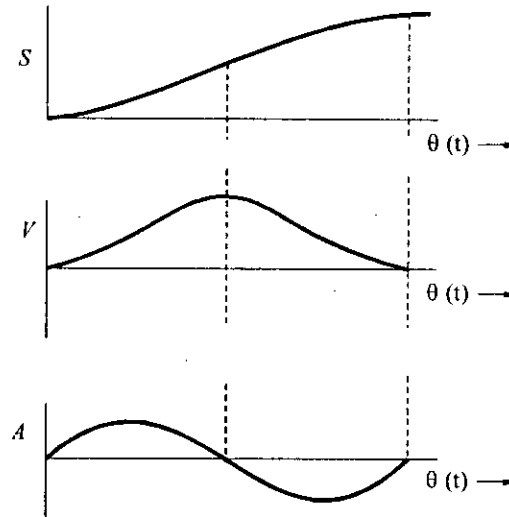

Fig. 8.14
**Cycloidal motion:** For cycloidal motion the displacement, velocity, and acceleration curves are smooth as shown in fig. 8.14. The cycloidal motion provides zero acceleration at both ends of action. Therefore it can be coupled to a dwell at each end. Thus cycloidal motion is best suited for high speed cams.